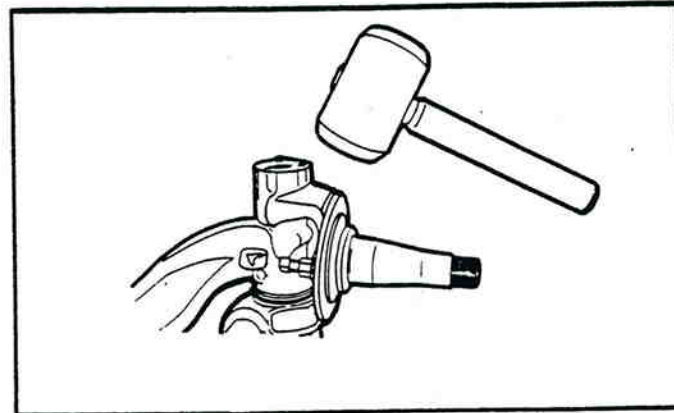

Figure 1-23. Striking Knuckle.
a. With king pin caps off, turn the knuckle to the straight ahead position. Take a rubber mallet and repeatedly strike the top draft of the knuckle as shown. This will shift all of the components down and remove grease layers so an accurate reading may be taken (figure 1-23).